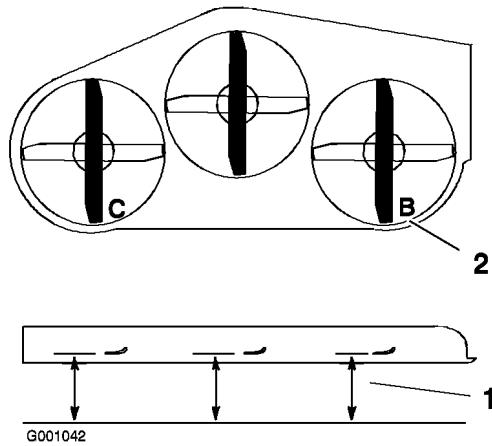

Figure 76
1. Position the right blade front-to-rear (Figure 76).
2. Measure the right blade at the **B** location, from a level surface to the cutting edge of the blade tip (Figure 76).
4. Position the left blade front-to-rear (Figure 76).
5. Measure the left blade at the **C** location (Figure 76), from a level surface to the cutting edge of the blade tip.